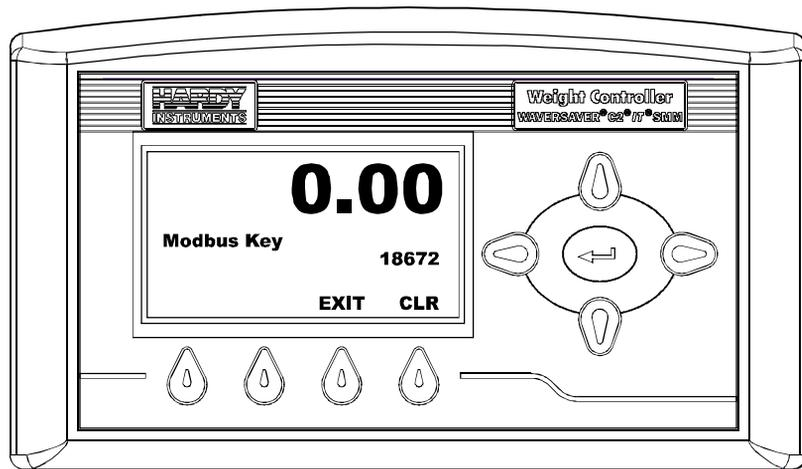

FIG. 136 ROC KEY MENU/ENTERING ROC KEY NUMBER
Step 6. Press the Enter button. The Modbus Key menu appears. (See Fig. 136)